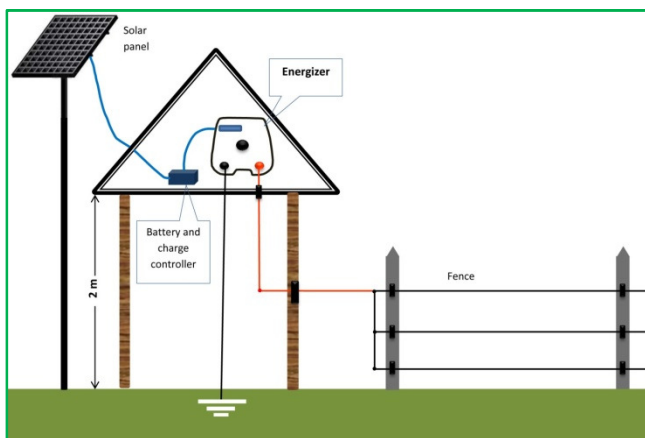

Figure 19. Installing energizer outdoor
- Shed should be constructed in an appropriate safe location outreach of children and animals (at least 2-3m high) (see Figure 19 and 20)